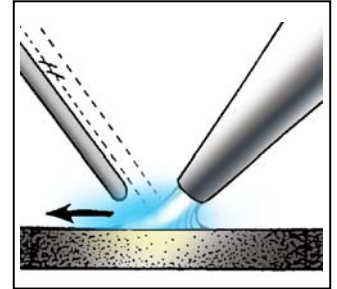

Figure 7
25. When the weld pool needs additional material, dip the end of the rod in the front edge of the weld pool. This melts the rod and fills the pool. When enough filler is added to make the desired bead, move forward. Refer to Figure 7.